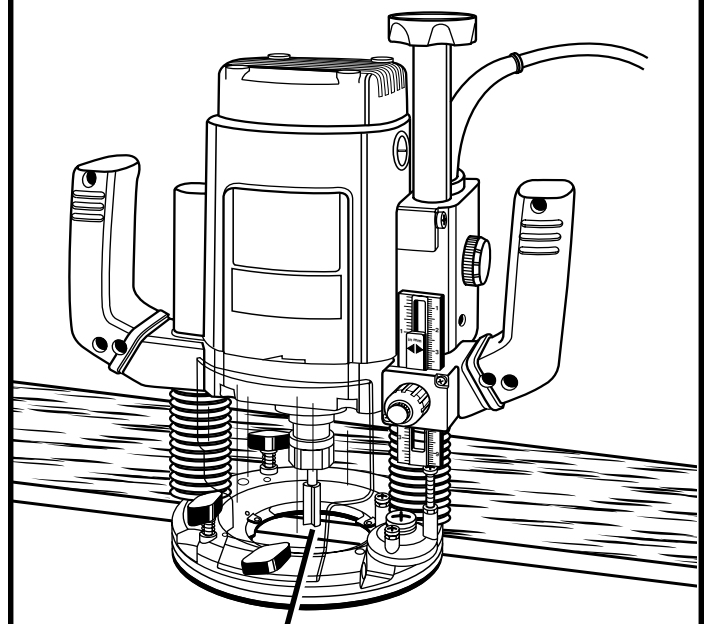

Fig. 9
- Position your router so that the cutter can extend below the subbase for desired depth setting. See Figure 9.